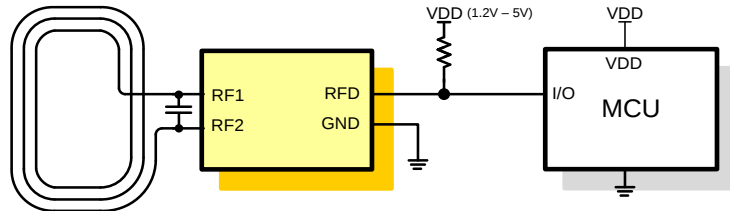

Figure 2: SIC43NT with RF detect pin operating in an open-drain mode
- RF field detection when I/O is set in an open drain mode (Figure 2)